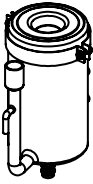

Fig 14.1
1. Primary Boiler (*fig. 14.1*).
2. Remove Primary Boiler from Accessories Box 3. Inspect for any damage before proceeding (fig. 14.1).